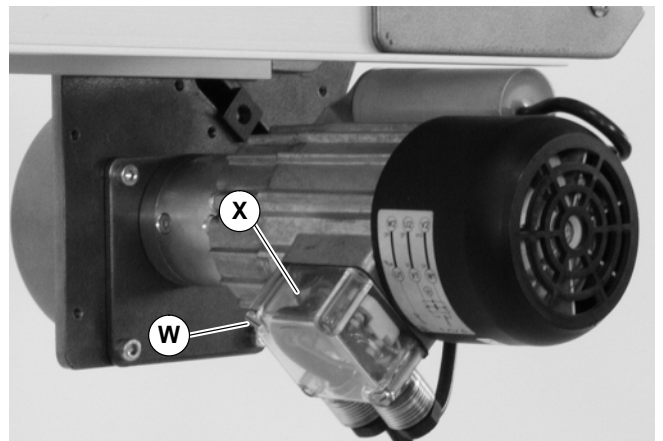

Figure 14
- Loosen terminal box screws (W of Figure 14) and remove cover (X).
- a. Loosen terminal box screws (W of Figure 14) and remove cover (X).